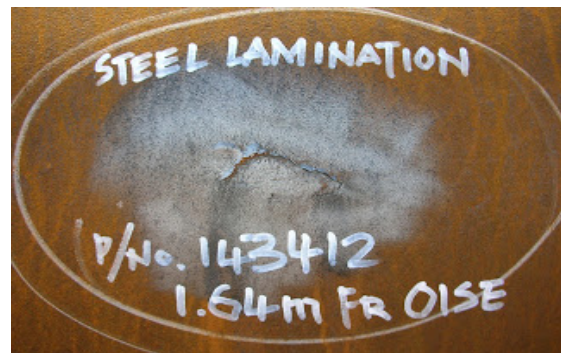

Figure 21. Picture of Delamination (by Shearo, CC BY-SA 3.0)
**Delaminations** began as laminations but when it was heated through welding or was thermally being cut, it puckered and formed a delamination (Figure 21). The pucker is the lamination as it pushes apart from itself. The corrective action is the same as a lamination removal of the material, and reporting of the material so that the faulty material can be captured regardless of where it went.